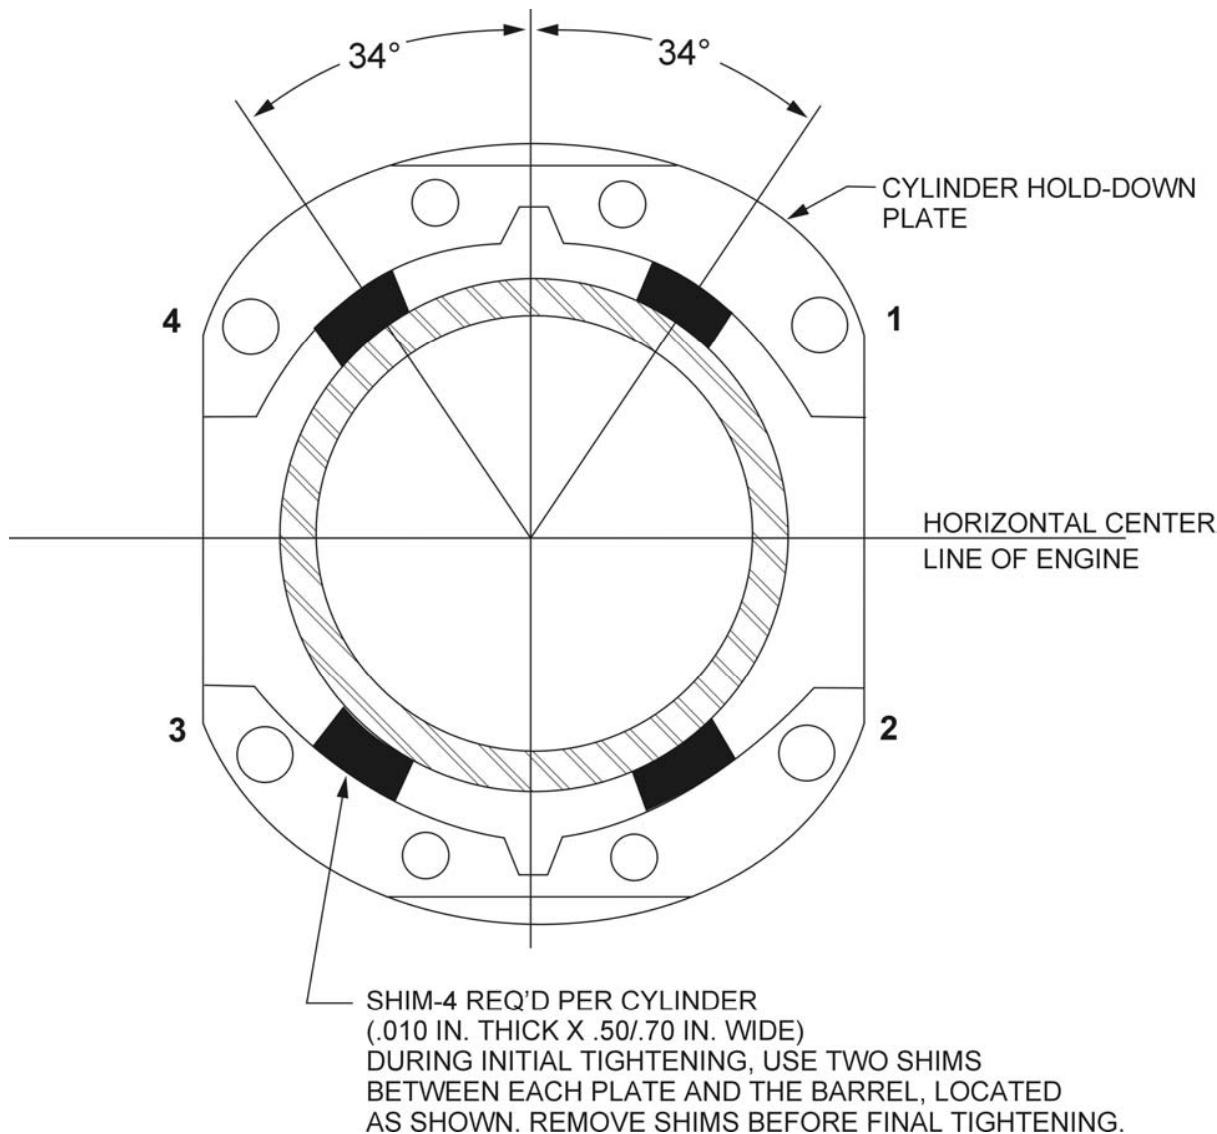

Figure 5-3. Location of Shims Between Cylinder Barrel and Hold-Down Plates (where applicable) and Sequence of Tightening Cylinder Base Hold-Down Nuts
- (a) (*Engines using hold-down plates*) – Install shims between cylinder base hold-down plates and cylinder barrel, as directed in Figure 5-3, and tighten $\frac{1}{2}$ inch hold-down nuts to 300 in.-lbs. (25 ft.-lbs.) torque, using the sequence shown in Figure 5-3.